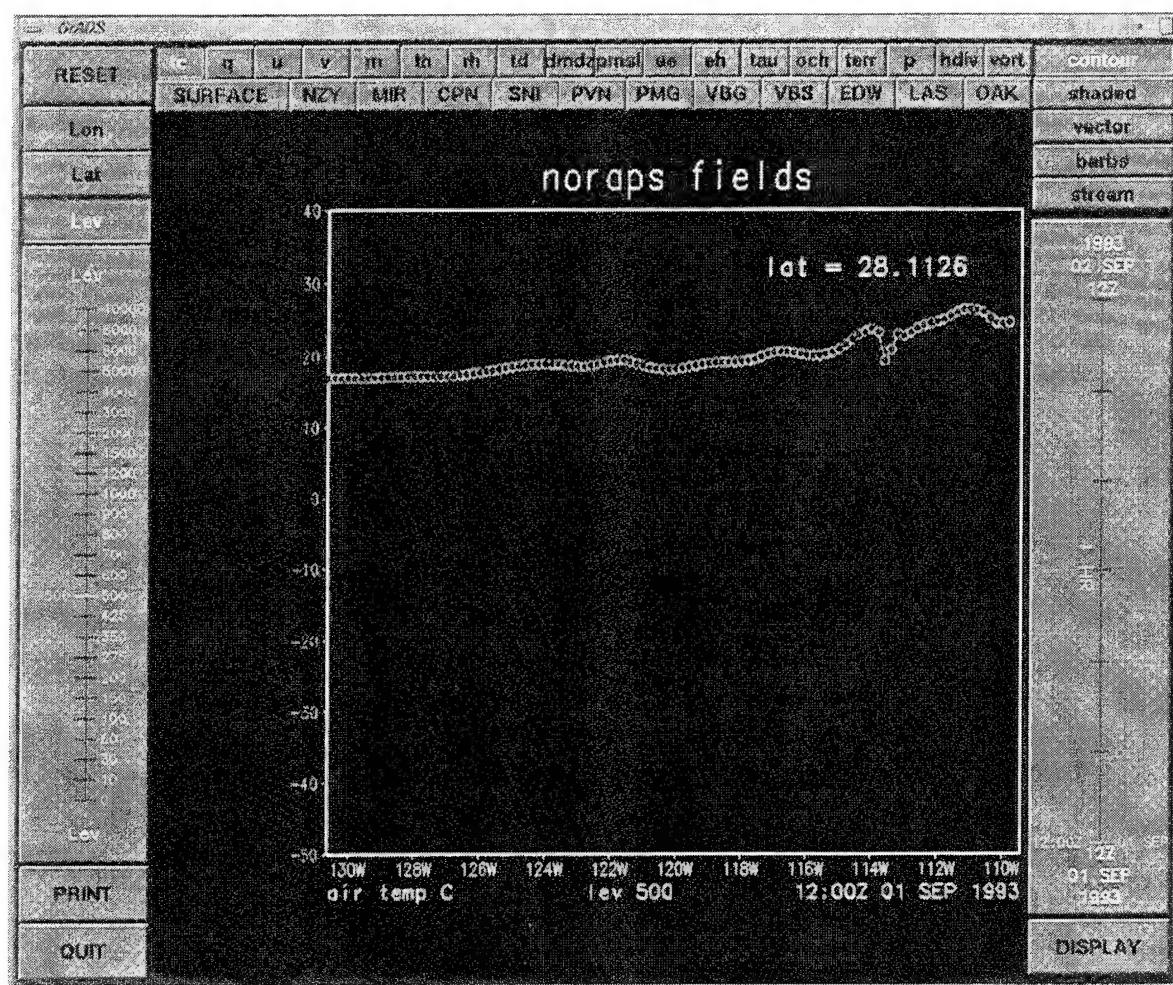

Figure 7. Typical line plot.
- One dimension or time is varying. Line plots of the selected variables are displayed in different colors with color coded axes and labels (Fig. 7).